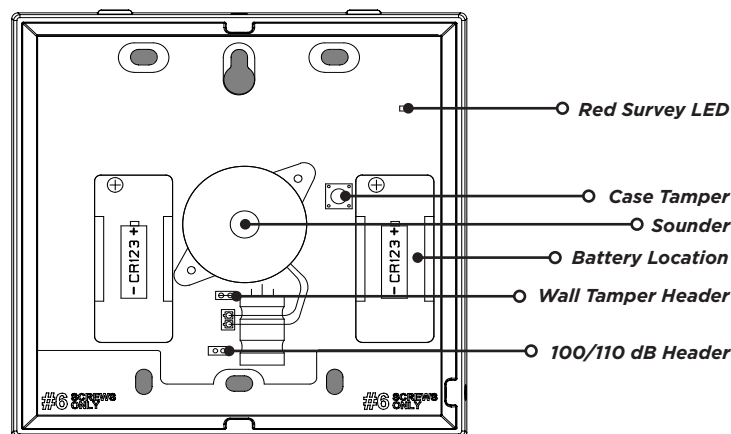

Figure 2: Mounting Holes and PCB Features
Before installing the batteries, program the siren's output number in the panel and connect the receiver. Observe polarity when installing the two CR123A batteries. See Figure 2.
A two-position header is provided to disable the wall tamper. Refer to Figure 2. To disable the wall tamper, place the jumper across the two pins of the header.
The siren is equipped with a 100/110 decibel (dB) jumper and a two-position header to change the decibel output. The siren is shipped at the 110 dB output level with the jumper placed on one pin for storage. If the 100 dB setting is required, place the jumper over both header pins. Refer to Figure 2.
4. Install the two CR123 batteries and press into place. Refer to Figure 2 for battery locations.